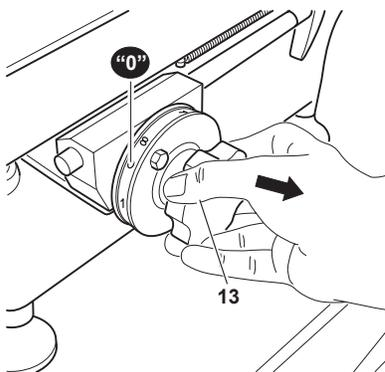

Figure 19-1
1. Pull the slice thickness control dial (13) out towards operator and turn counter-clockwise to set to “0” (Figure 19-1).